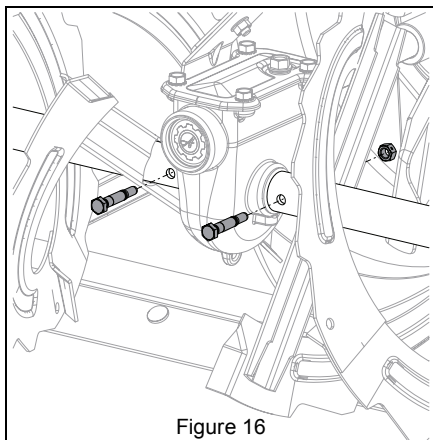

Figure 16
1. Remove shear bolt nuts and bolts. See Figure 16.
See Figure 16.